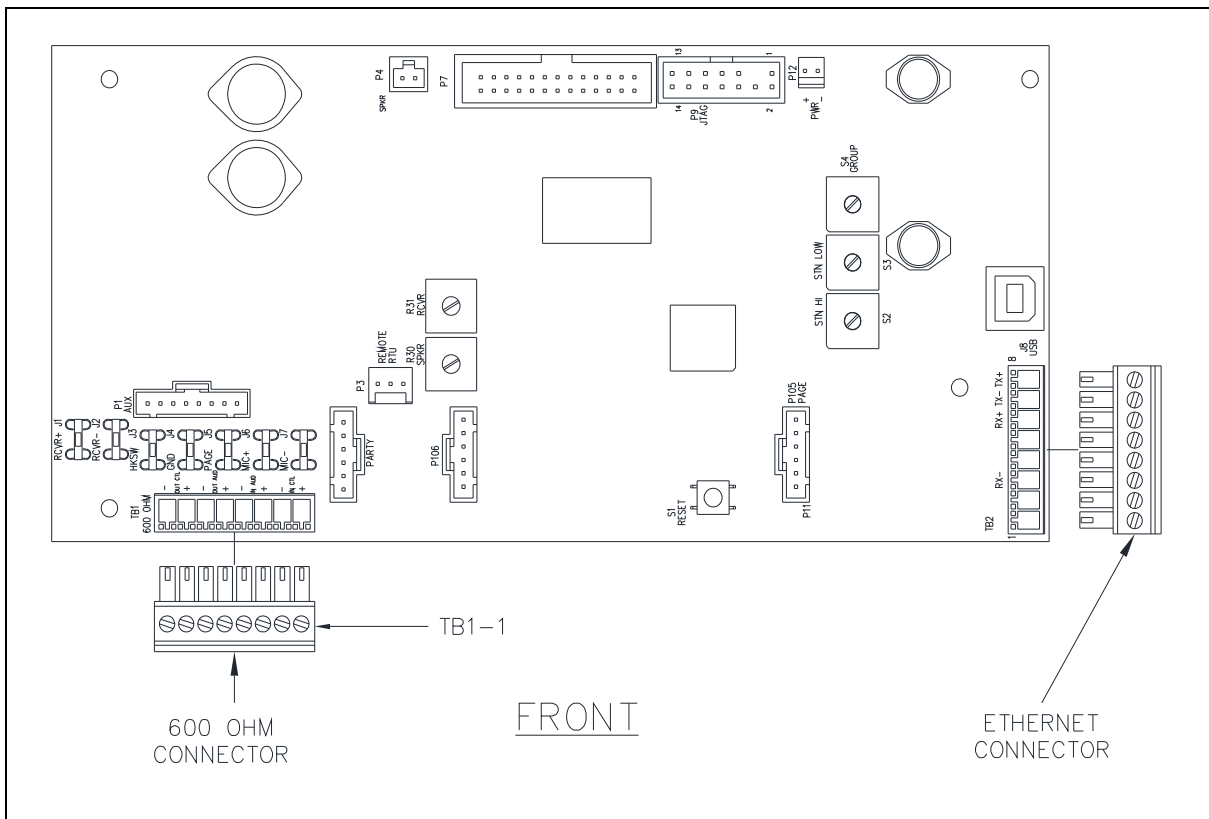

Figure 8. SP2 Main PCBA (Ethernet)
3. Connect the 600-ohm audio wires to the pluggable terminal block for the 600-ohm audio I/O connection (see Table 6 and Figure 8).
3. Connect the Ethernet cable to the 8-position pluggable terminal block (see Figure 8)
4. Connect the pluggable terminal block to the main PCBA terminal block TB2 (see Figure 8).